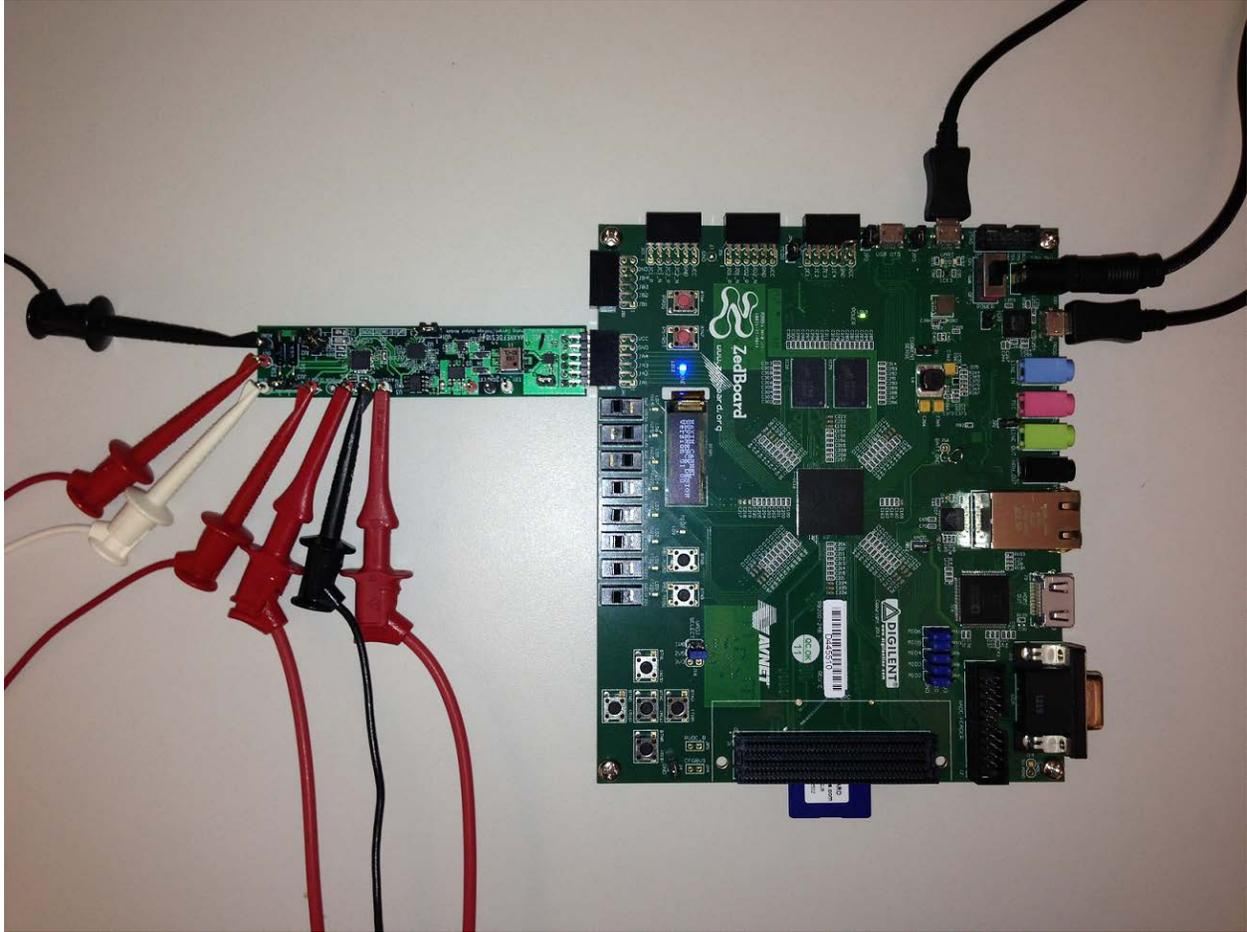
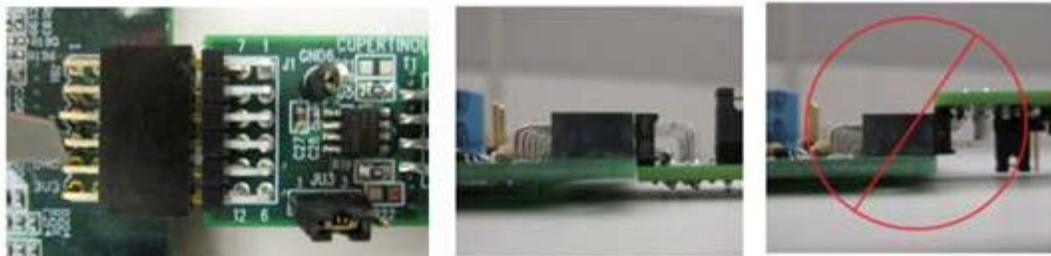

Figure 1. Carmel Board Connected to ZedBoard Kit
Figure 2. Pmod™ Connector Alignment
- 1) Connect the Carmel board to the JA1 port of a ZedBoard as shown in Figure 1. Ensure the connector is aligned as shown in Figure 2.
1. Connect the Carmel board to the JA1 port of a ZedBoard as shown in Figure 1.